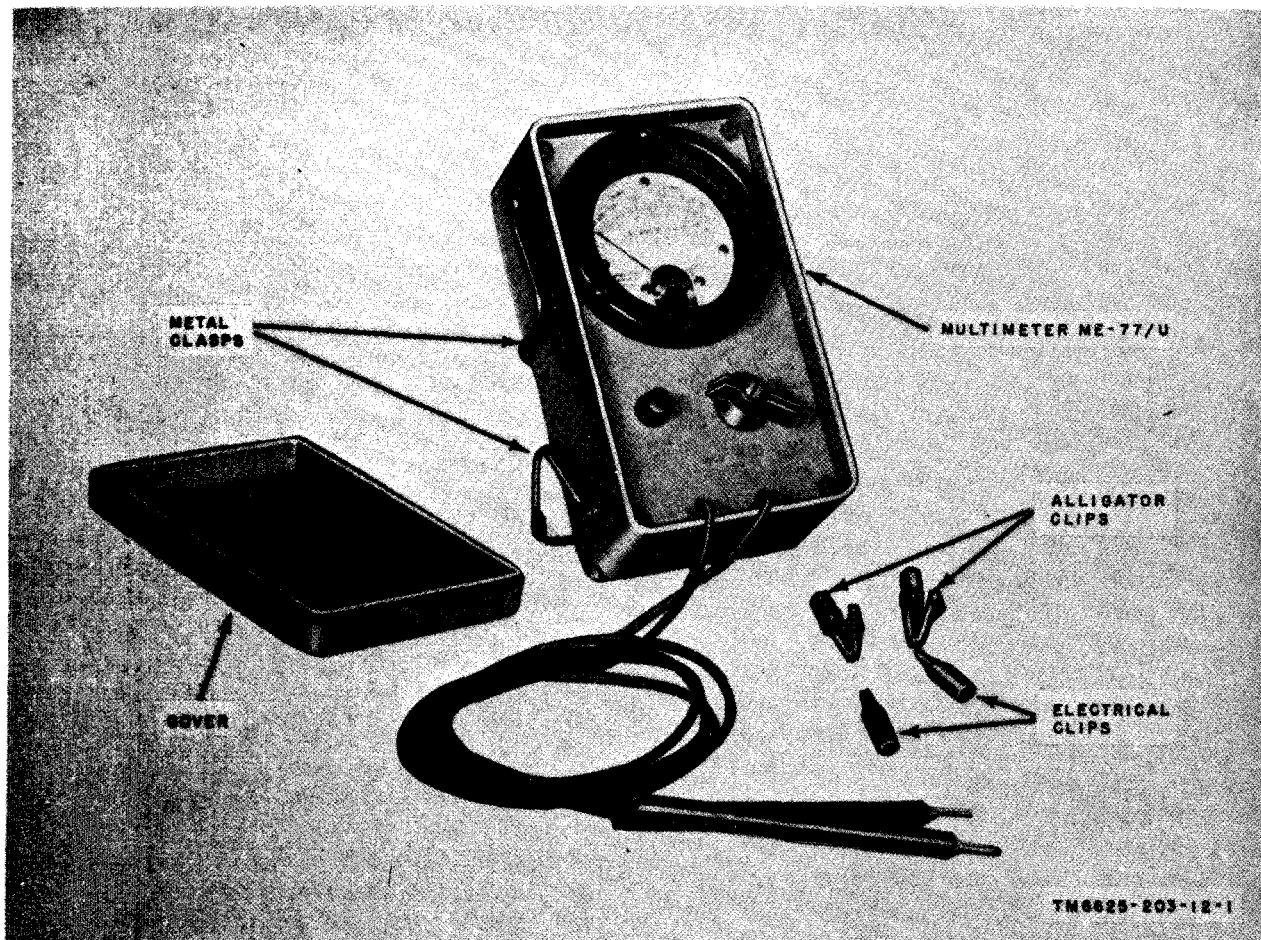

Figure 1. Multimeter AN/URM-105.
(fig. 1)
with metal clasps (fig. 1); the lower clasp may be used as a stand for the multimeter.
a. Lift the metal clasps (fig. 1) away from the case and remove the cover.